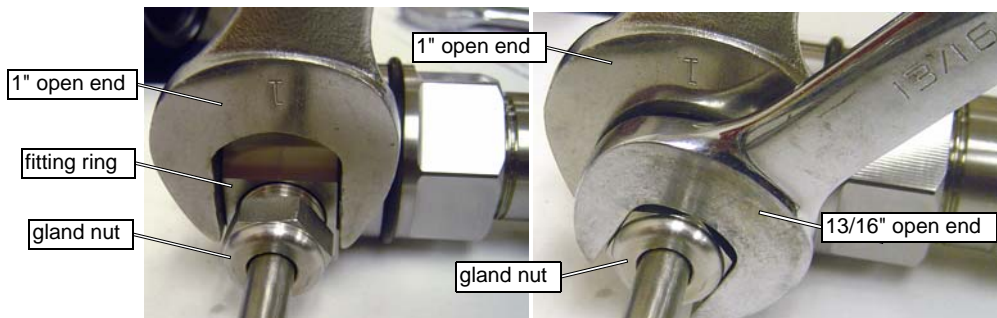

Figure 6-92: Loosening the Valve Gland Nut using Two Open End Wrenches
8. Remove the **gland nut** from the fitting ring (Figure 6-92) and carry the **Dual ON/OFF Valve Assembly** to a clean work area for rebuilding.
3. Tighten the UHP input line using the 13/16" and 1" open end wrenches. Tightened to 50 ft-lb (no greater than 75 ft-lb. Refer to Figure 6-92.